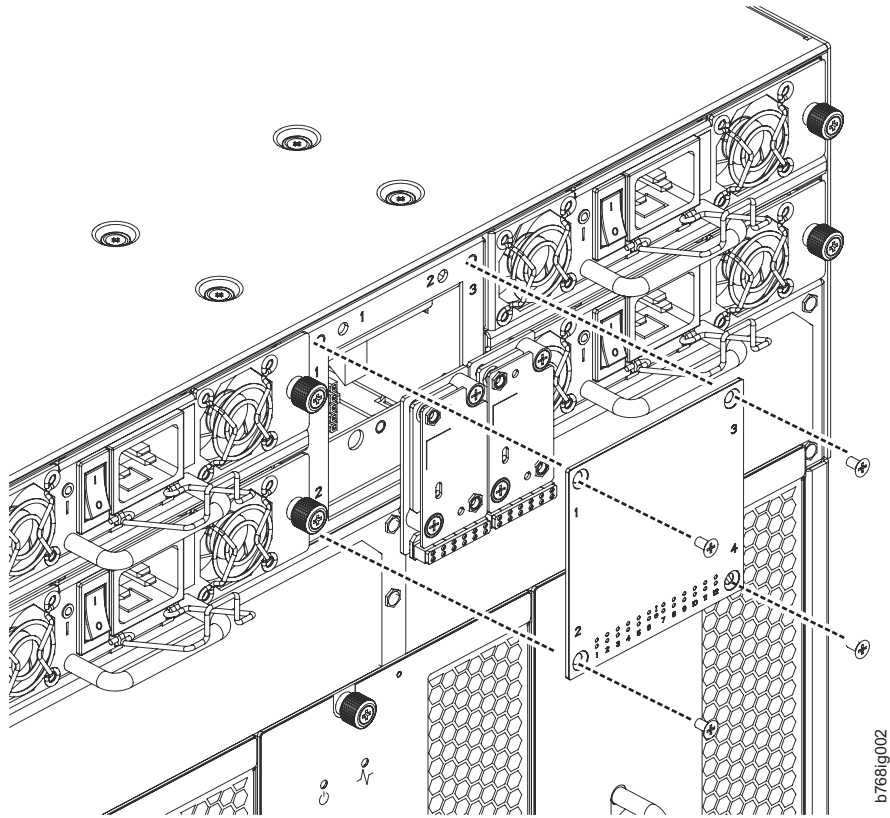

Figure 37. WWN bezel and card removal and installation
6. Remove the four screws from the WWN bezel (see Figure 37 on page 90). Pull the bezel away from chassis and set it aside. The WWN cards are visible.
3. Install the WWN bezel. Orient the bezel on the chassis (see Figure 37). Insert and tighten the four screws.